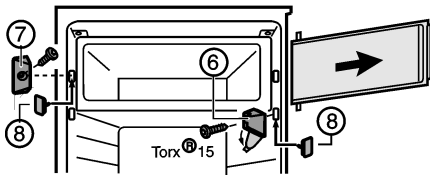

Fig. 2
- ▶ Fold away cover of turn hinge Fig. 2 (6).
- ▶ Unscrew turn hinge Fig. 2 (7) together with compartment door.
- ▶ Unscrew closing element Fig. 2 (7).
- ▶ Close the vacated holes with the accompanying stoppers Fig. 2 (8).